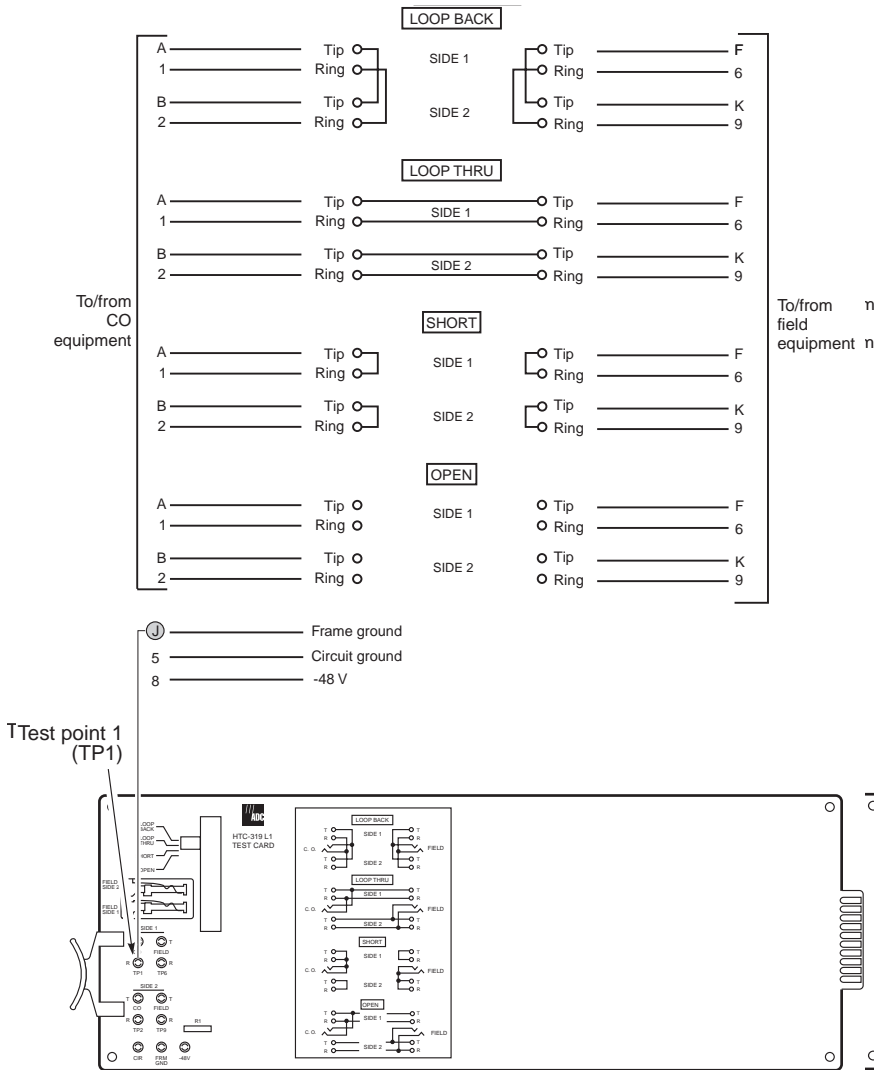

Figure 2. HTC-319 List 1 Test Connections
- 2 Connect to test points as applicable. The connections of Tip and Ring pairs of CO and field circuits for each setting of the switch are listed in Table 1 on page 4 and illustrated in Figure 2 on page 5. (Pin numbers correspond to the edge connector pins for each circuit.)